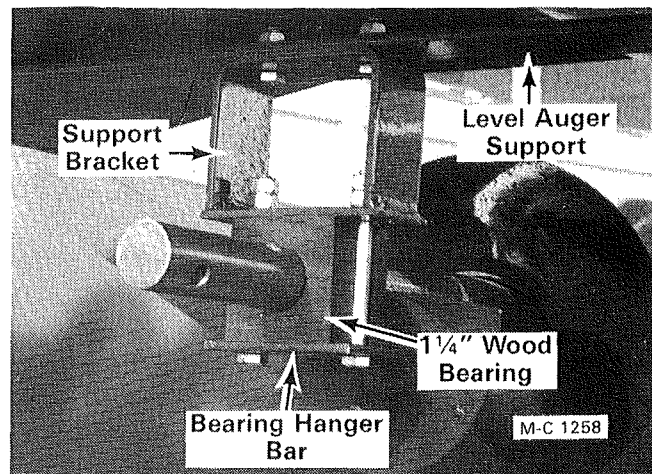

Figure 3 - Level Auger Bearing
2. Bolt level auger bearing assemblies to level auger bearing support brackets and then to the level auger support(s). See Figure 3.